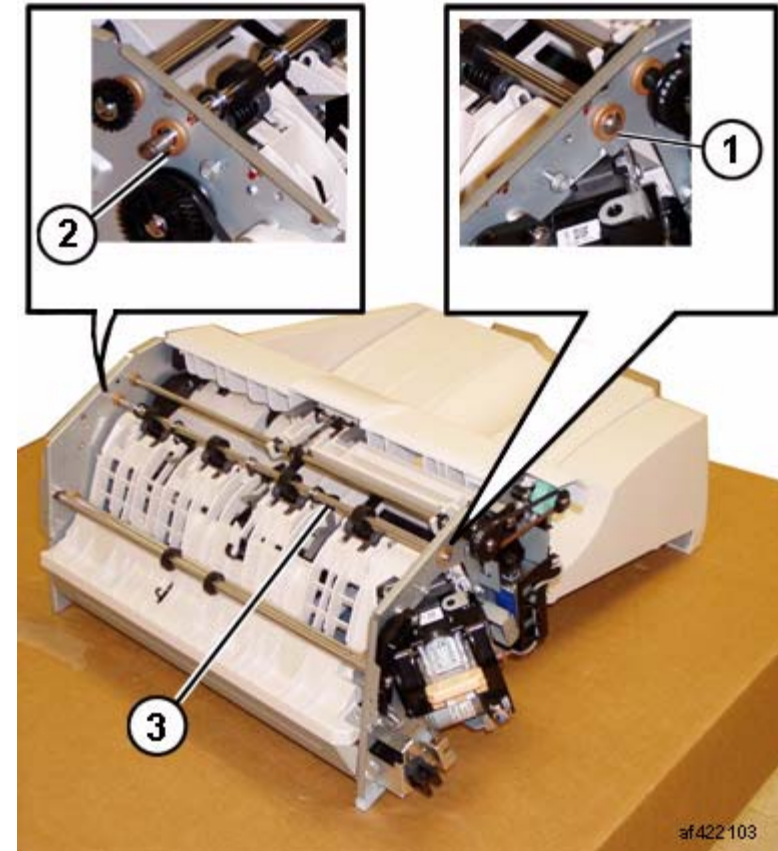

Figure 3 Removing the Exit Roll Assembly
9. Remove the Exit Roll Assembly (Figure 3):